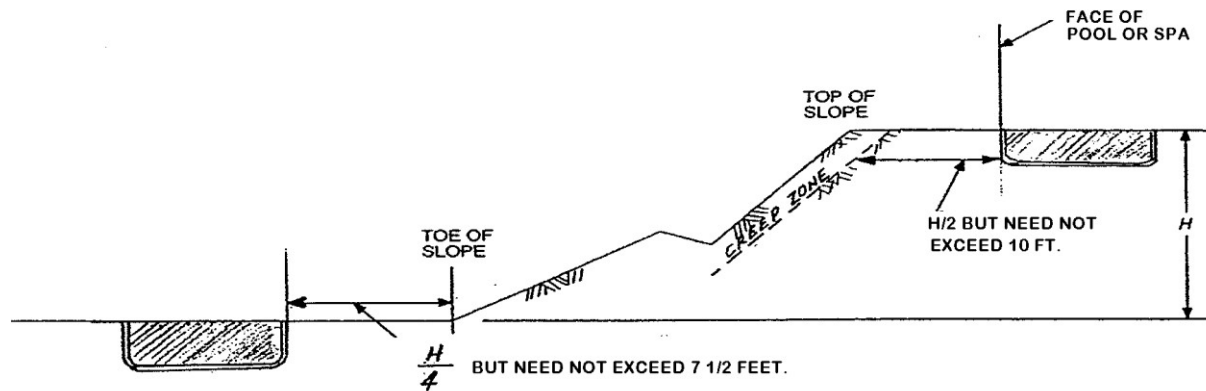

FIGURE 1 - SETBACK DIMENSIONS
6. Pools shall be setback from top and bottom of slopes as required by City of San Clemente grading ordinance (see FIGURE 1). The building official may approve alternate setbacks and clearances when a soils investigation by a qualified engineer demonstrates the intent of the code has been satisfied. The report shall be prepared by a licensed Geotechnical or Civil Engineer that addresses the location of pool/spa, soil conditions and slope stability.